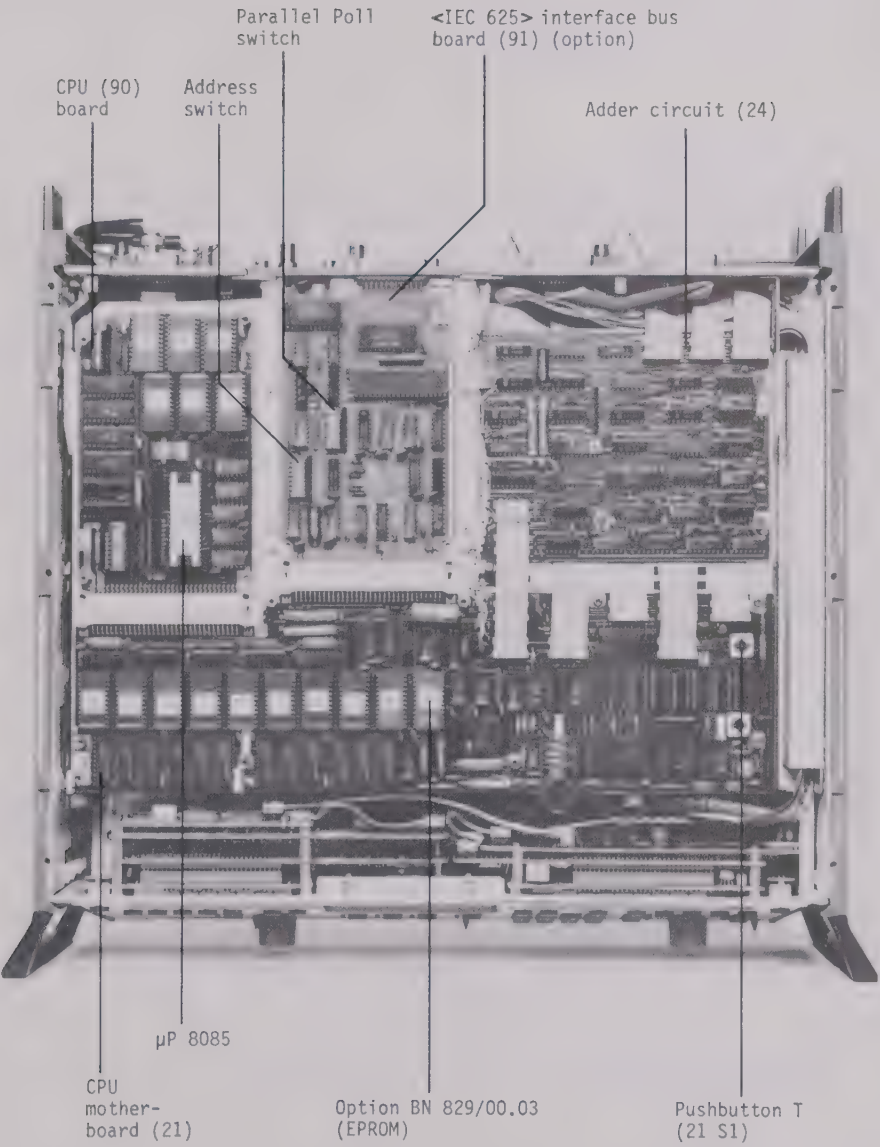

Figure 6-2 Upper side of the upper folding chassis
Figure 6-2 shows details of the components in the upper folding chassis after removal of the equipment cover and the chassis cover. Amongst other things, the microprocessor (INTEL 8085) and the free positions for the optional accessories IEC bus board or printer interface and PROM (white noise program, fixed frequencies, set-ups) with customer-specific programs can be seen in this Figure. The pushbutton T is depressed only after repair in order to initialize the unit if the buffer battery for the RAM power supplies was disconnected during repair (see Section 3.6).
3. Hold the unit (reference potential) with one hand, remove the MOS module from its packing material with the other hand (holding it at the ends), and insert it in the position shown in Figure 6-2. The module is oriented correctly if the inscription on the component is the same as on socket.